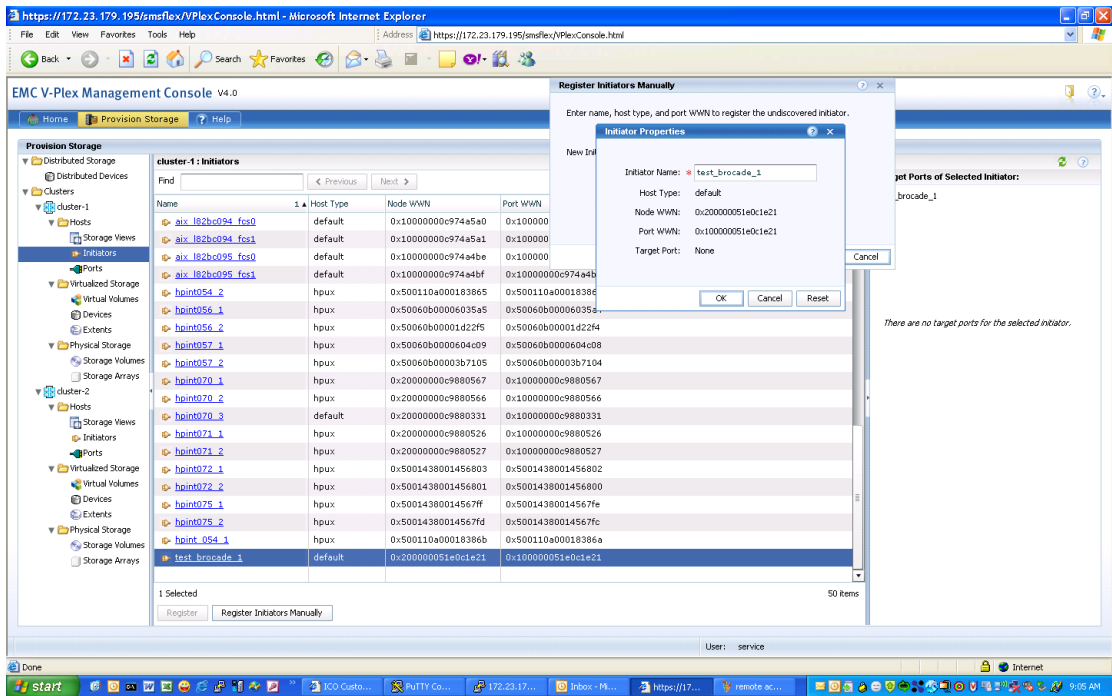

Figure 76 Register initiators
2. Registering initiators, as shown in Figure 76.